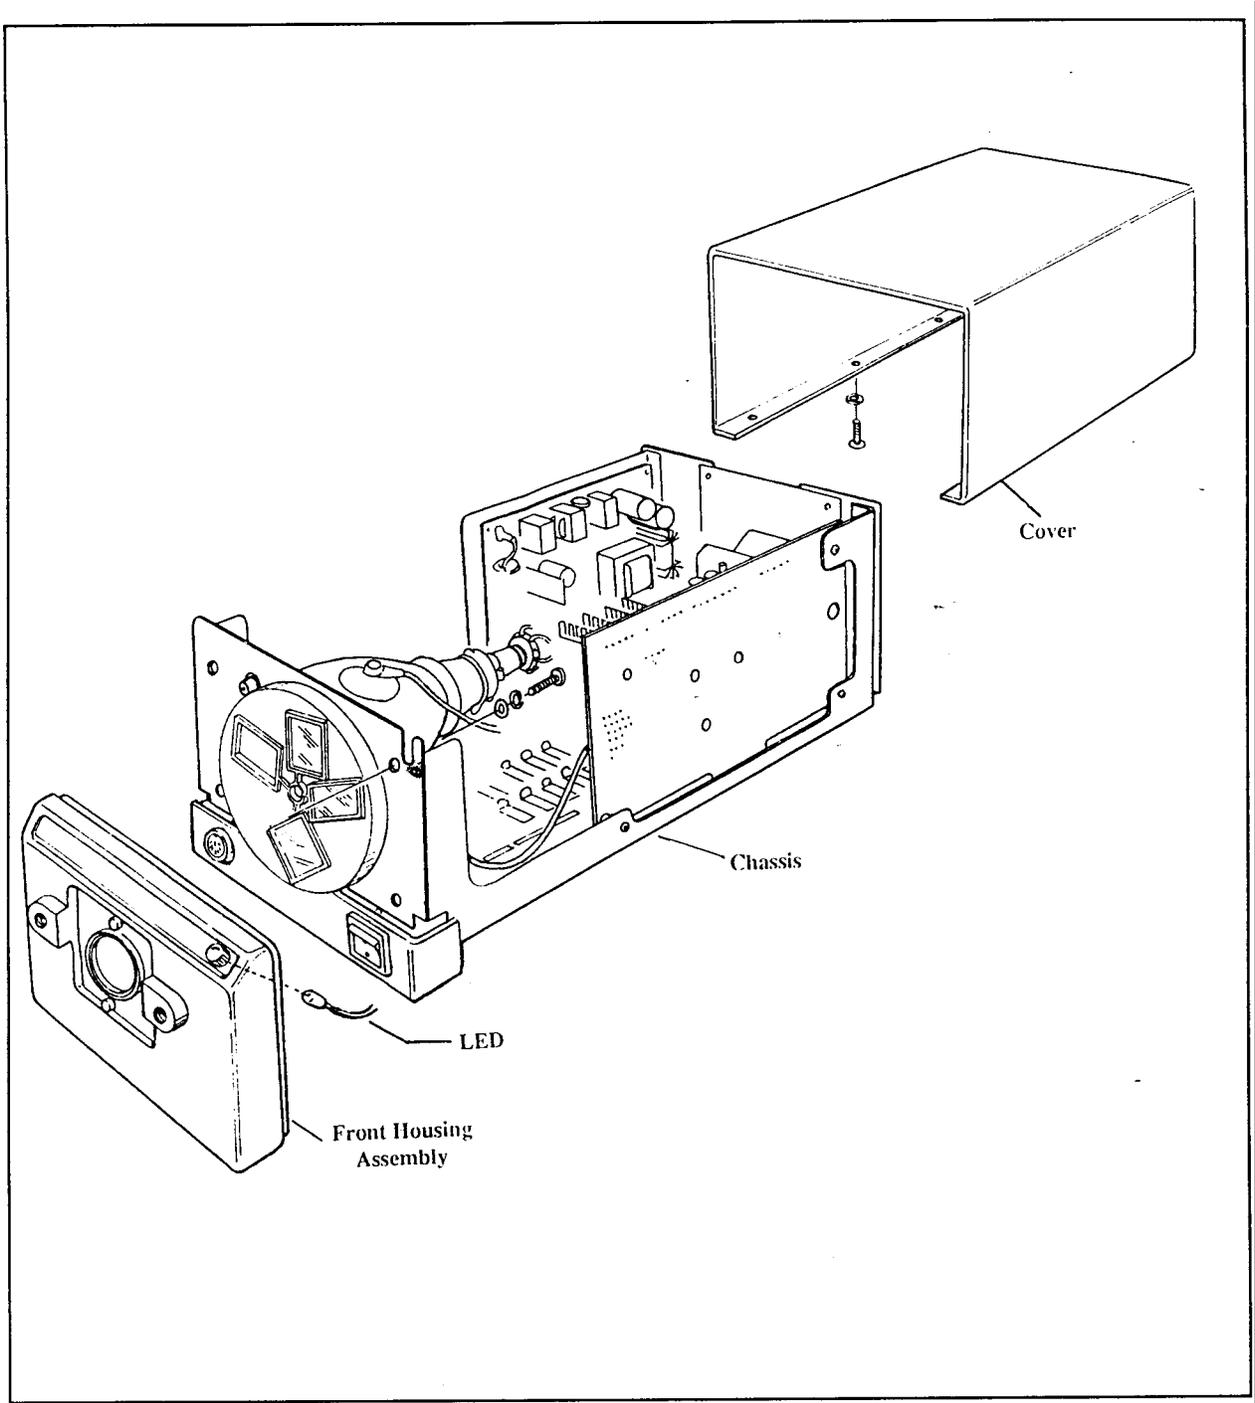

Figure 4-2 Cover and Front Housing Removal
1. REMOVAL: (Figure 4-2)
- c. Pull the LED indicator and cable out of its retainer by grasping the cable with pliers and using the chassis edge as a fulcrum (see Figure 4-2)
- b. Remove the six screws and washers holding the Cover to the bottom of the chassis. Slide the Cover to the rear and lift it off (Figure 4-2).
- d. Replace the Cover (Figure 4-2).
- b. Remove the six screws and washers holding the Cover to the bottom of the chassis (Figure 4-2). Slide the Cover to the rear and lift it off.
- c. Remove the four screws holding the Front Housing Assembly to the chassis (Figure 4-2). Remove the Front Housing.
- c. Replace the Cover (Figure 4-2).
- b. Remove the six screws and washers holding the Cover to the bottom of the chassis (Figure 4-2). Slide the Cover toward the rear and remove it from the chassis.
- h. Replace the cover on the chassis (Figure 4-2).